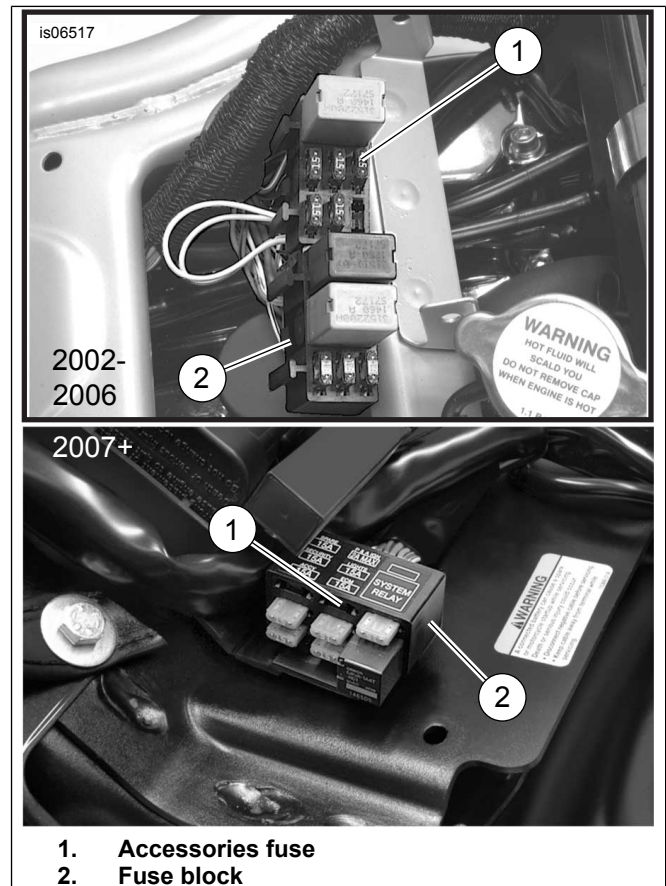

Figure 15. Accessory Fuse Locations (V-Rod Models)
- See Figure 15. Carefully slice open an area of the main harness wrap near the fuse block (2) at an accessible point, and cut the orange/white main harness wire leading to the fuse cavity (1) marked: